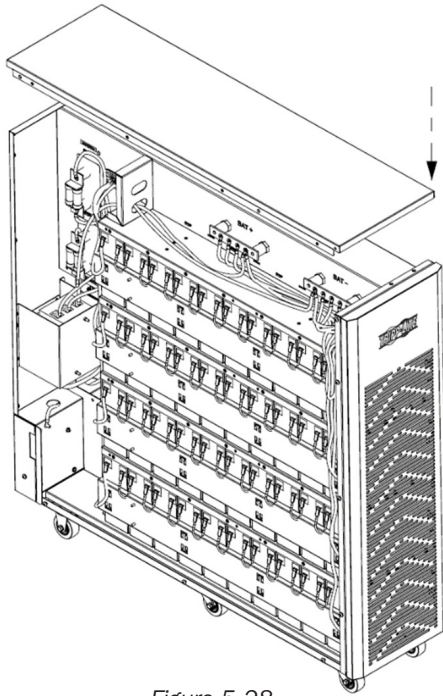

Figure 5-28
40. Reinstall the top cover (Figure 5-28).